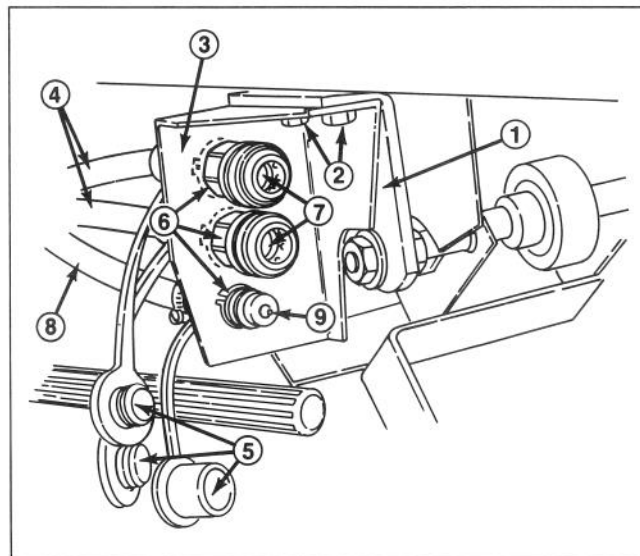

Figure 9
12. Remove bolts attaching right hand traction pedal bracket (Fig. 9). Position hydraulic line support plate under bracket. Replace and tighten bolts.
13. Route two 1/4" ID flexible hydraulic lines from step 11 up to the support plate and slide one end of a dust plug onto each line (Fig. 9).
14. Use a snap ring to secure one of the two female quick disconnects into the top hole on the hydraulic line support plate (Fig. 9).
17. Install the longer (12 inch) new 1/4" ID flexible hose and male quick disconnect in the bottom hole of the mounting plate (Fig. 9) using the following procedure:
- C. Put quick disconnect nipple on threaded side of barbed hose stem and insert nipple through bottom hole on support plate (Fig. 9). Secure with snap ring. The other end will be connected later.
11. Remove bolts attaching right hand traction pedal bracket (Fig. 9). Position hydraulic line support plate under bracket. Replace and tighten bolts.
12. Route two 1/4" ID flexible hydraulic lines from step 10 up to the support plate and slide one end of a dust plug onto each line (Fig. 9).
13. Use a snap ring to secure one of the two female quick disconnects into the top hole on the hydraulic line support plate (Fig. 9).
14. Thread and tighten the 1/4" line from the right hand port "B" on the two lever valve into the top female quick disconnect on the support plate by holding the line and turning the disconnect (Fig. 9).